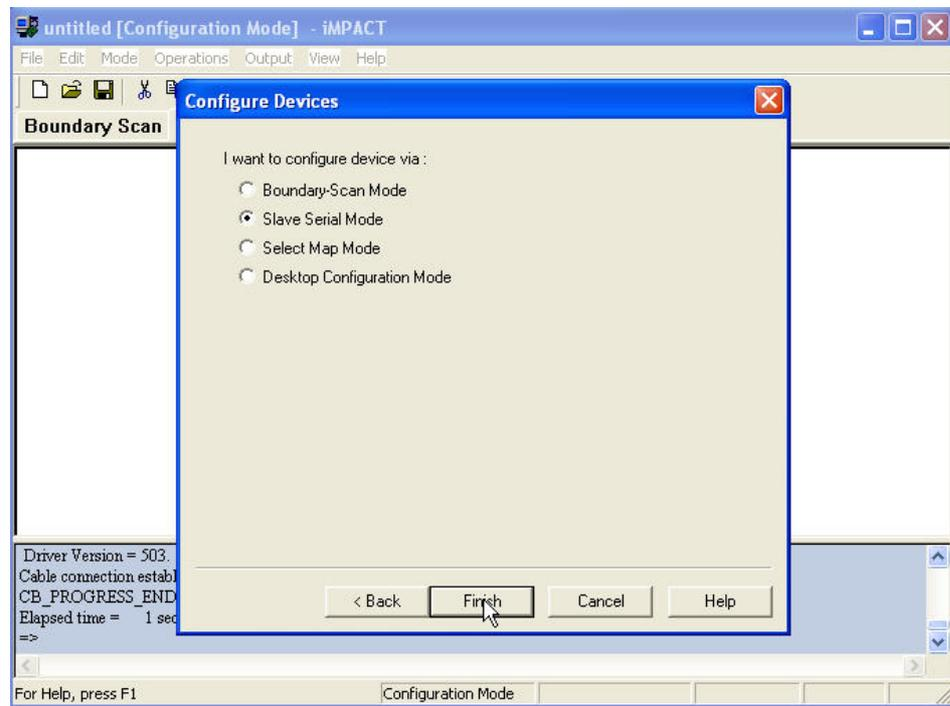

Figure 28: Design Impact - Initial Setup - 2.
3. In the next dialog box shown in Figure 28, select *Slave Serial Mode* then click finish. The Design Impact will try to find the hardware board attached to it. If all the connections are made properly, it will detect the board and show the successful status in the status portion (the light blue box)